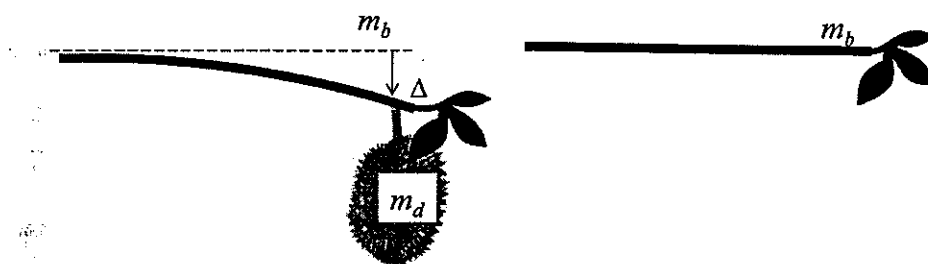

Figure 5
- 3(a) Figure 5 shows a durian fruit of mass 2.5 kg hanging from a tree branch. Free oscillation of the branch with the durian on is different from that of the branch alone (after durian falling). It is observed that the period of free oscillation for the branch with the durian on is 1.5 s. After the durian fell, the branch alone oscillates freely faster at a period of 1.0 s.